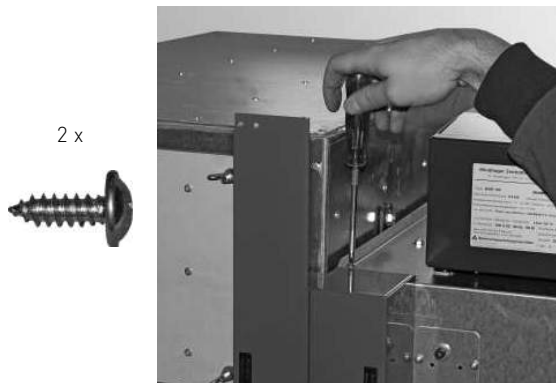
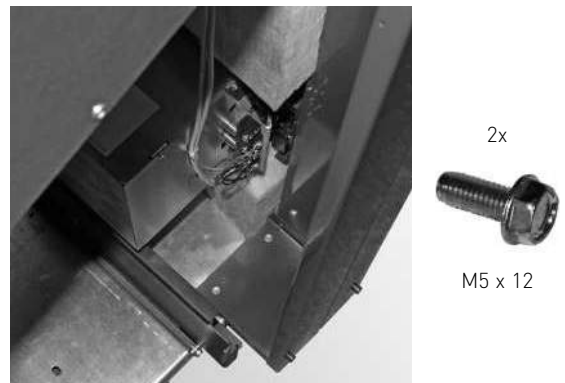

Fig. 40 Securing centre panel at top with 2 self-tapping screws
Fig. 41 Securing centre panel at bottom with 2 TT screws
- Secure vertical centre panel at top with 2 self-tapping screws (Fig. 40) and at bottom with previously removed 2 TT screws (M5 x 12) – Fig. 41.